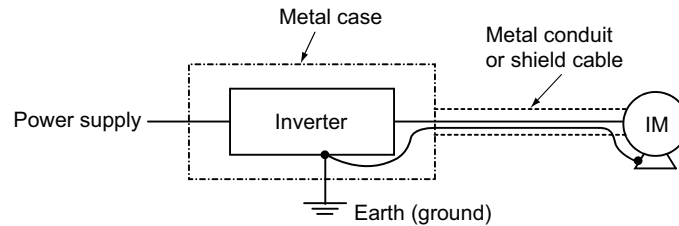

Fig. 7.23 Pipe arrangement for the motor connection cable
- Although the radiated noise can be reduced by inserting the line noise filter FR-BLF or FR-BSF01 to the inverter output side as described previously, it is usually reduced by using a metallic pipe or shielded cable as shown in Fig. 7.23. For effective earthing (grounding) of the motor, connect one cable of the 4-core cable on the inverter side and use a pipe whose thickness is 2 mm or more. Wiring inside the concrete pit or room surrounded by concrete has an effect similar to the metallic pipe.